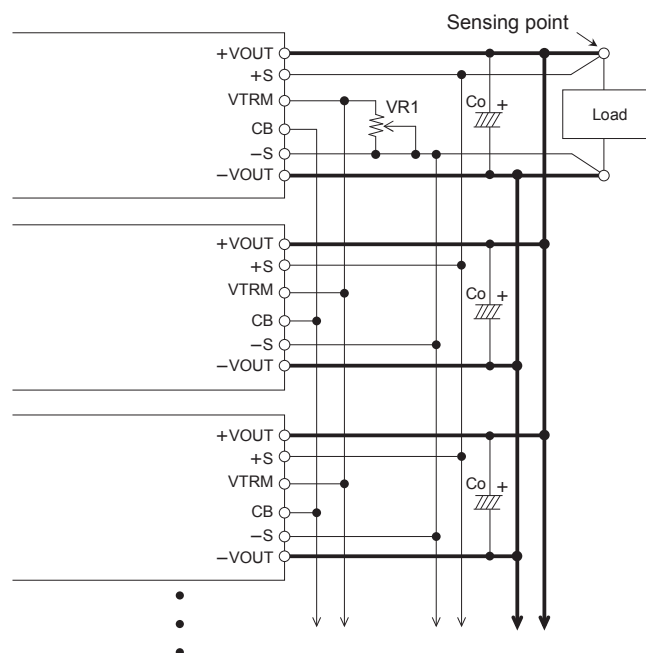

Fig.4.2 Examples of parallel operation
- Parallel operation is available by connecting the units as shown in Fig.4.2. With this wiring, it is possible to adjust all output in module by single potentiometer. When output voltage adjustment is not in use, VTRM wiring, VR1 are not necessary.